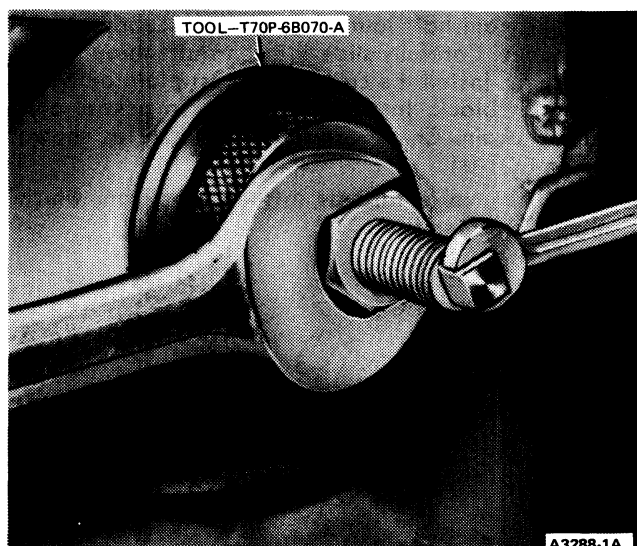

FIG. 27 Installing Front Crankshaft Seal
8. Install the front crankshaft seal into the cylinder front cover plate with the tool shown in Fig. 27.
10. Coat a new front cover plate oil seal with Lubriplate or equivalent and place it onto the front oil seal and alignment sleeve as shown in Fig. 27. Place the sleeve and seal onto the end of the crankshaft and push the seal toward the engine until the seal starts into the front cover.
1. Coat a new front cover plate oil seal with Lubriplate or equivalent and place it onto the front oil seal alignment and installation sleeve as shown in Fig. 27. Place the sleeve and seal onto the end of the